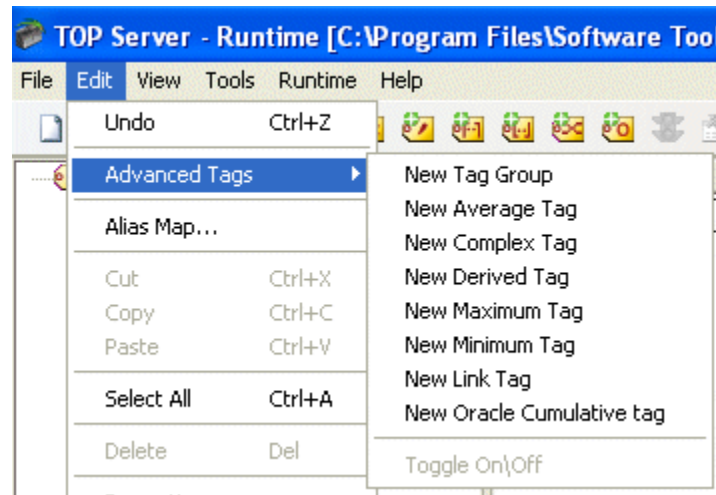
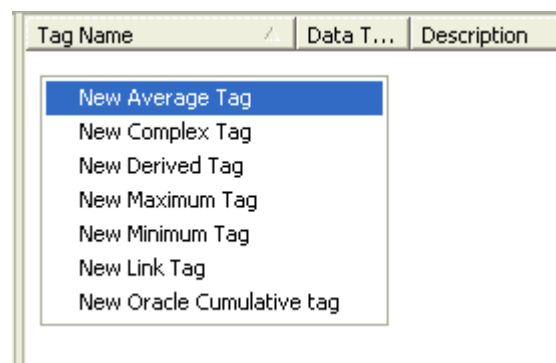
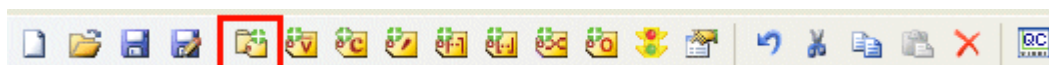

Figure 2: Add New Advanced Tag From Edit Menu
Figure 3: Add New Advanced Tag From Context Menu
Figure 4: Add New Tag Group
3. You can add a tag group by clicking on Edit | Advanced Tags | New Tag Group, as shown in Figure 2 or by right-clicking in the Tag pane and select the type of tag from the context menu as shown in Figure 3. Alternatively, you can select the New Tag Group button from the menu bar, as shown in Figure 4.